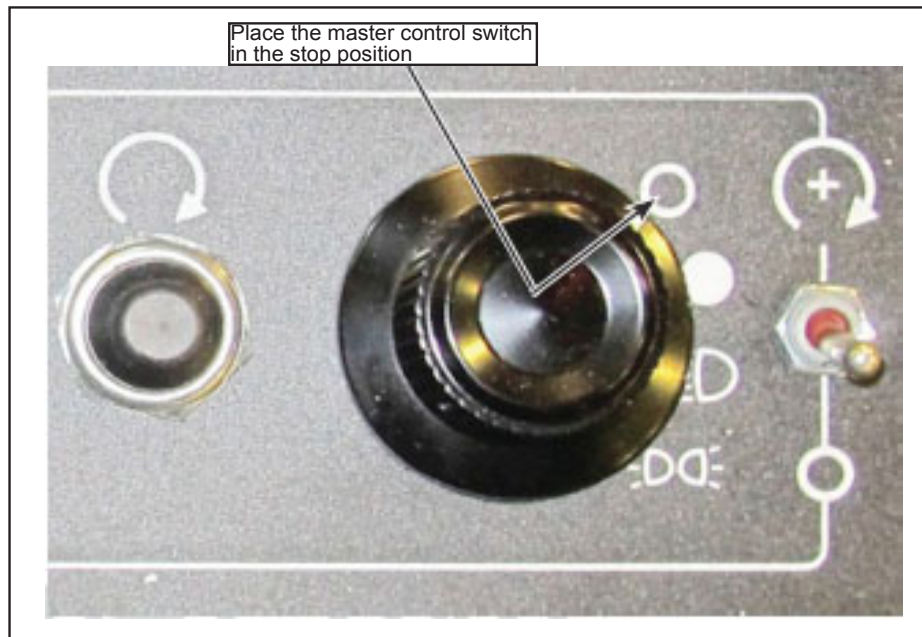

Figure 1 - Master Control Switch in the Stop Position
- 1.2. Place the master control switch in the stop position (see Figure 1).